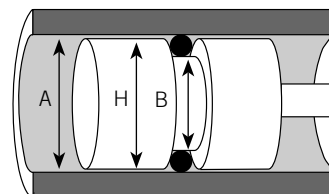

Fig. 1-23
1. Male or Plug - the O-ring groove is located on a plug which is inserted into the housing or cylinder (fig. 1-23)
Male or Plug Seal design is based on the following factors (refer to fig. 1-23).